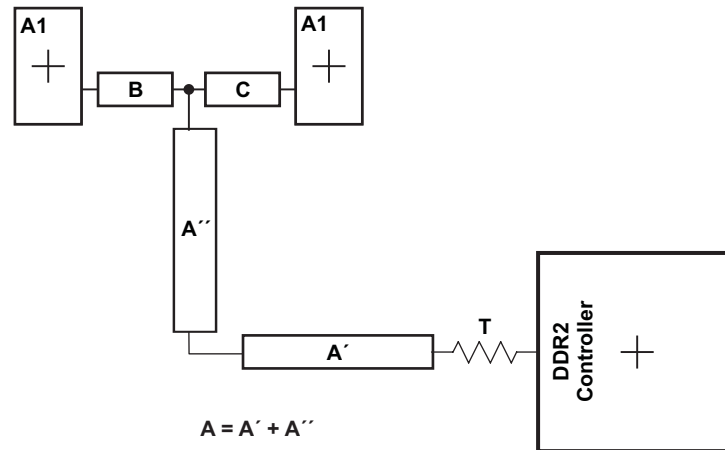

Figure 8-42. CK and ADDR_CTRL Routing and Topology
Figure 8-42 shows the topology of the routing for the CK and ADDR_CTRL net classes. The route is a balanced T as it is intended that the length of segments B and C be equal. In addition, the length of A ($A'+A''$) should be maximized.
- (1) The length of segment $A = A' + A''$ as shown in Figure 8-42.
- (2) Series terminator, if used, should be located closest to the device.
- (3) Center-to-center spacing is allowed to fall to minimum (2w) for up to 500 mils of routed length to accommodate BGA escape and routing congestion.
- (4) CACLM is the longest Manhattan distance of the CK and ADDR_CTRL net classes.